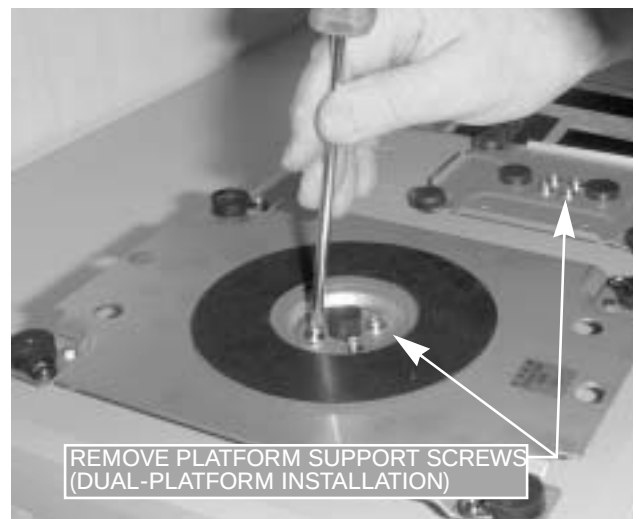

Figure 2-6. Removing Platter Support Screws and Platter Support on a Dual-Platform Scale
3. Remove the four platform support screws from the left-hand platform support assembly (shown in Figure 2-6). Remove the four screws from the right-hand platform support assembly.